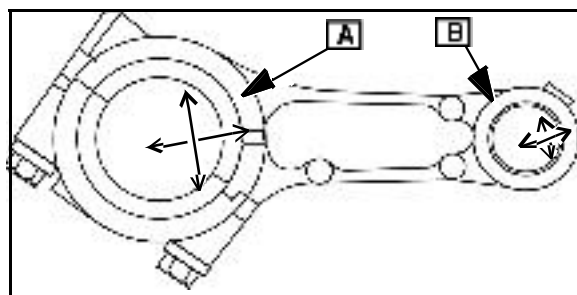

Fig. 9
1. Measure the crank pin bearing (A) and the piston pin bearing ([B] Fig. 9).
2. Use a telescoping gauge at approximate 120° intervals and record the readings to get an average dimension, as shown in Fig. 9.